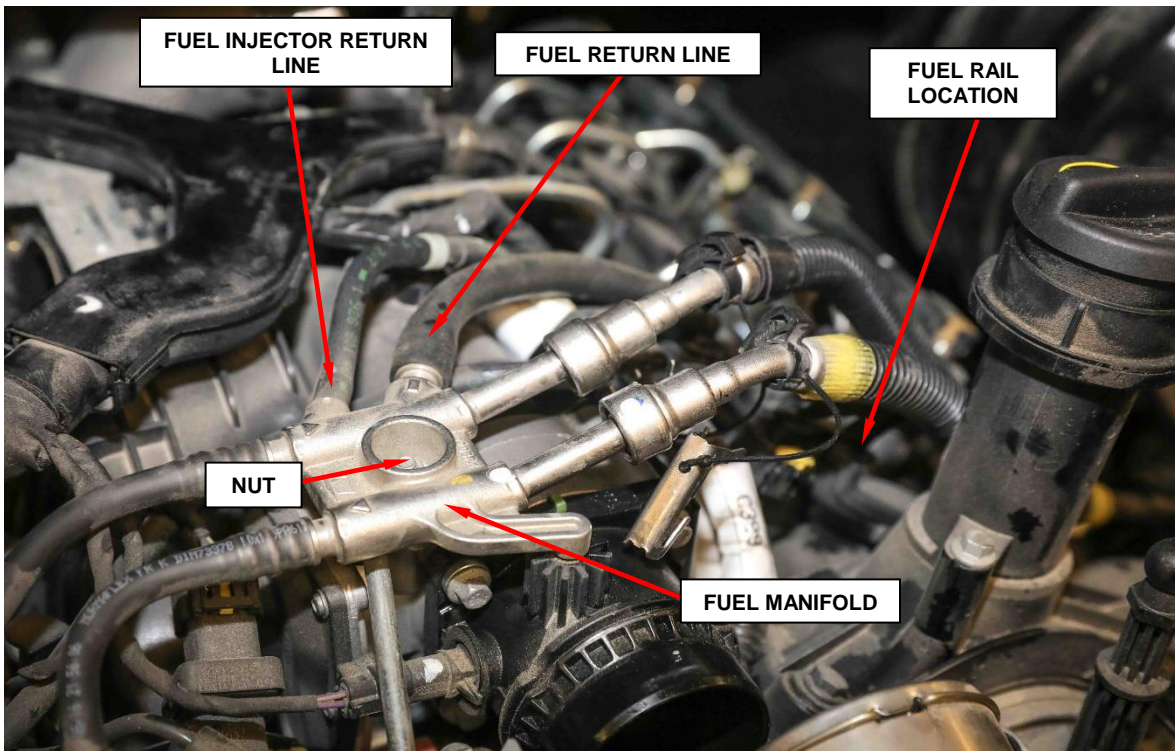

Figure 21 – Fuel Manifold
28. Disconnect the fuel injector return line (Figure 21).
17. Install the fuel manifold and tighten the nut to 8 N·m (71 in. lbs.) (Figure 21).
18. Connect the fuel injector return line (Figure 21).
19. Connect the fuel return line at the fuel rail (Figure 21).